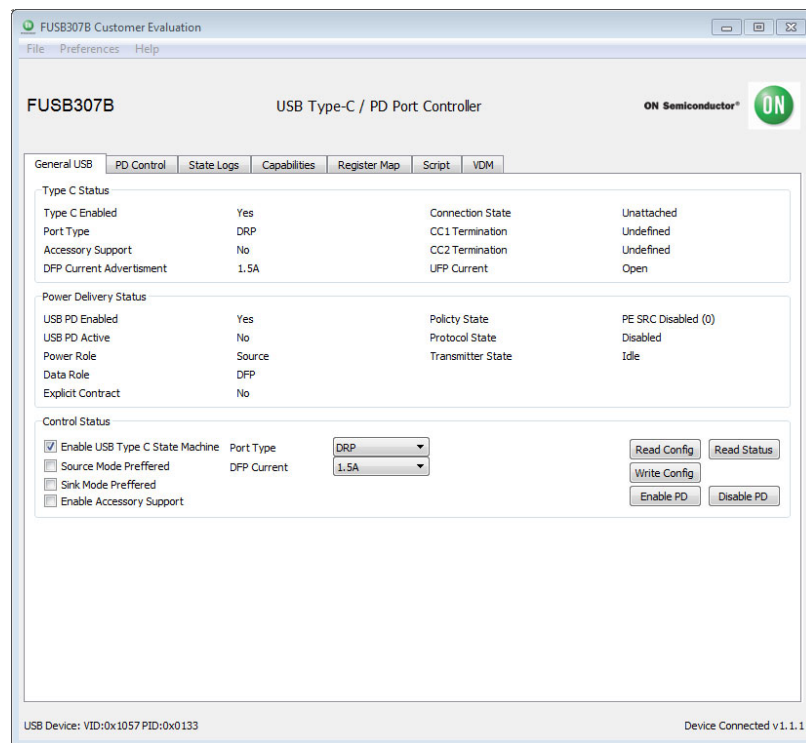

Figure 8. Initial Page of FUSB307B GUI
4. The base operation GUI will appear as shown in Figure 8 below.